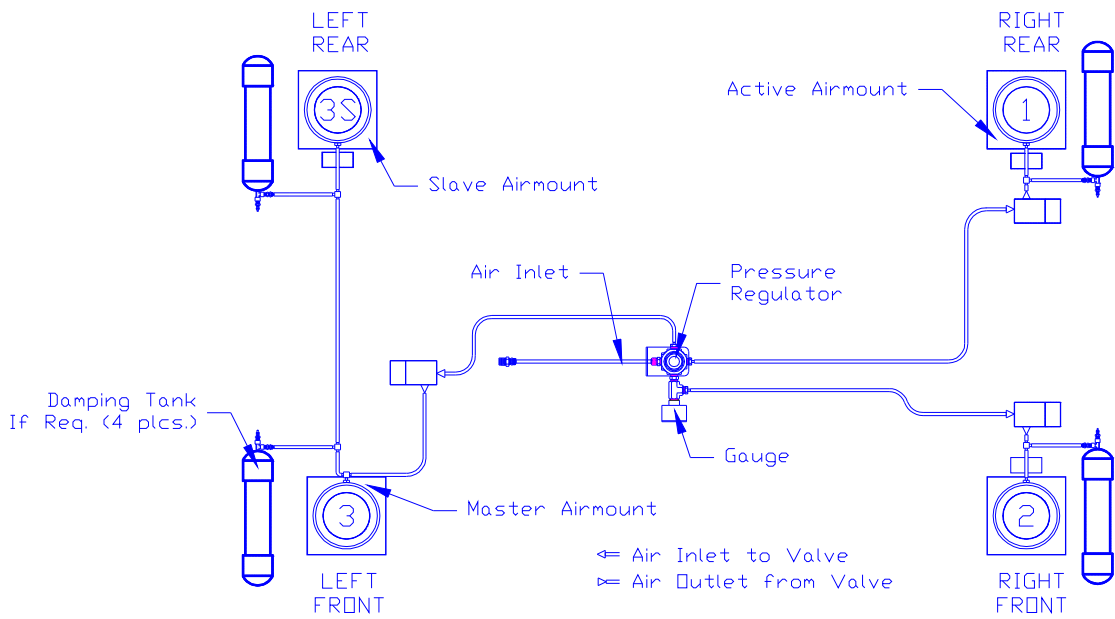

Fig. 3a Airline Schematic for 1206 Four Mount System.
10. Following the airline schematic as shown in Fig. 3a and 3b. In most cases the ends of the black line and the corresponding fittings are letter coded. Firmly grasp the end of each line and push it over its corresponding pre-lettered barb fitting. Make sure the tubing is pushed on all the way.
12. Connect the Umbilical Assembly (1/4" OD x 15 ft polyethylene tubing and 1/4" NPT fitting) that is provided with the systems from the inlet of the Filter Regulator to a pressurized air supply as shown in Fig. 3a and 3b. The polyethylene tubing may be shortened by cutting with a tubing cutter. If additional pipe fittings are required to complete the connection at the pressurized air supply, these must be supplied by the user. *Note: make sure air is turned off.*
14. Mount the Filter Regulator assembly in a convenient location using the mounting bracket and the two (2) Phillips head shelf tapping screws. For some systems the Filter Regulator Assembly is already mounted.